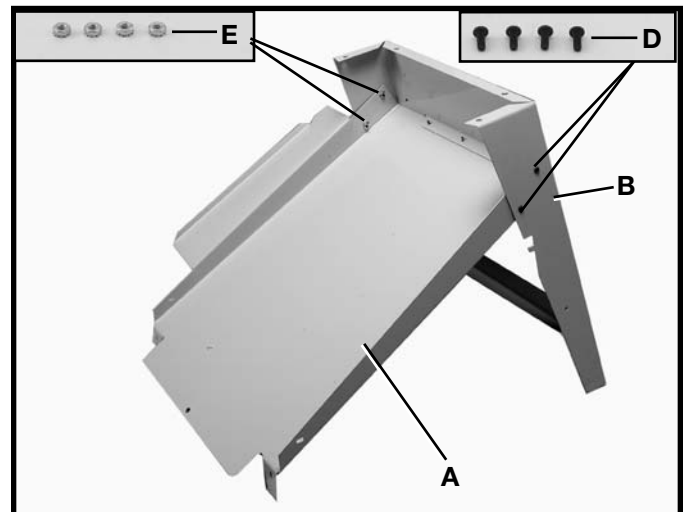

Fig. 9
2. Insert four #10-32 x 1/2" screws (D) Fig. 9 through support panel and dust chute. Install four #10-32 hex nuts (E) Fig. 9. **NOTE:** The front stand panel will have the saw identity labels facing you. Do not completely tighten the stand hardware at this time. Also, make certain the dust chute/support panel (A) Fig. 9, is located under the lip of front stand panel (B).